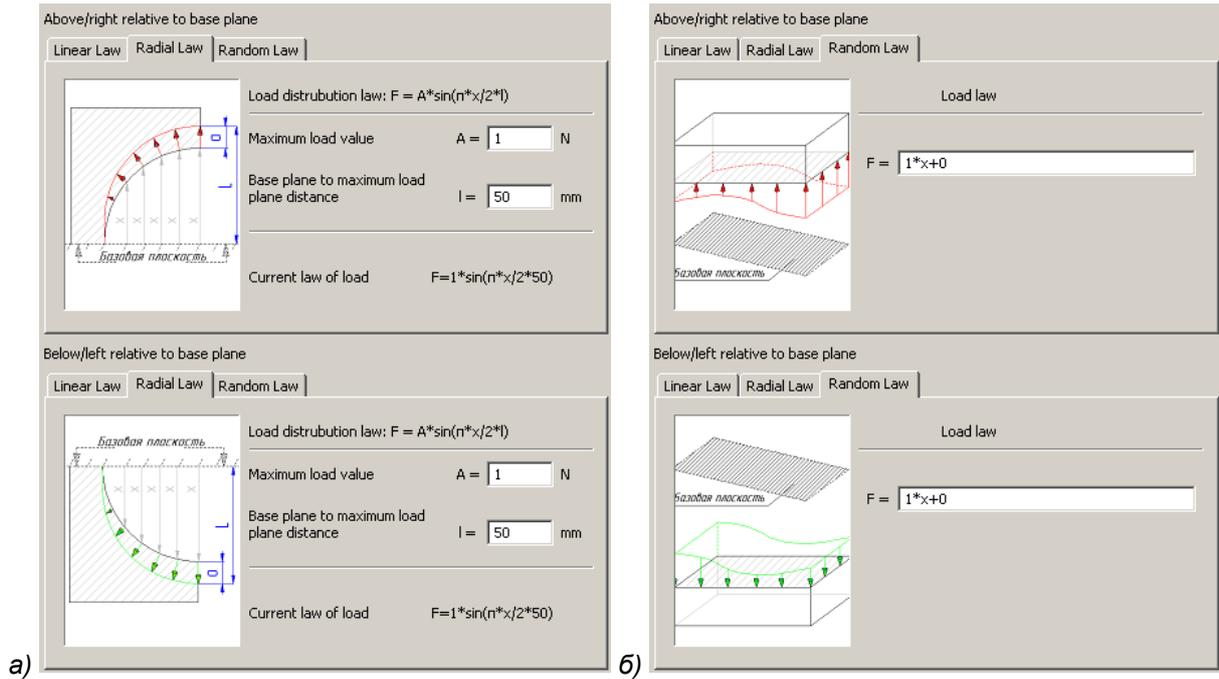

Fig. 2.9.20 Radial law and random law
*Radial Law* (fig. 2.9.20 a) corresponds to equation  $F = A \cdot \sin(n \cdot x/2^l)$ , [N] and is set by the *maximum load value*  $A$ , [N], and the *distance between base plane and maximum load plane*  $l$ , [mm].
*Random Law* (fig. 2.9.20 б) allows to set *load distribution law* in view of an optional analytic dependence.